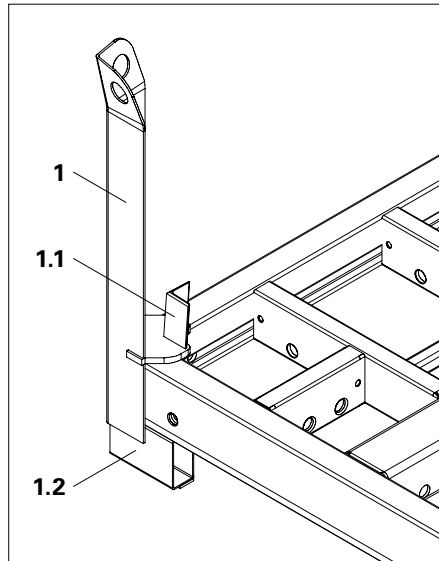

Fig. A1.12
1. Place the first panel with the formlining facing downwards on the rectangular tubes (1.2). (Fig. A1.12)